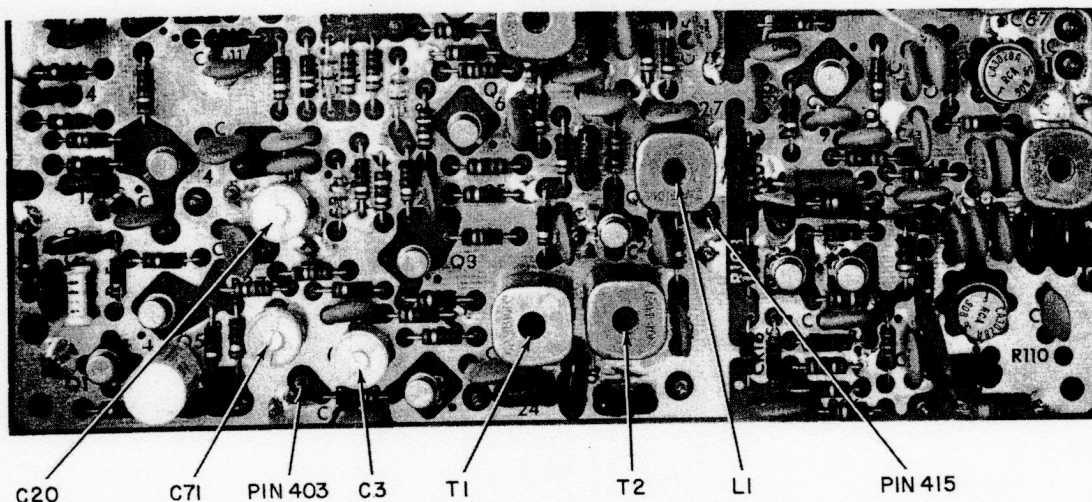
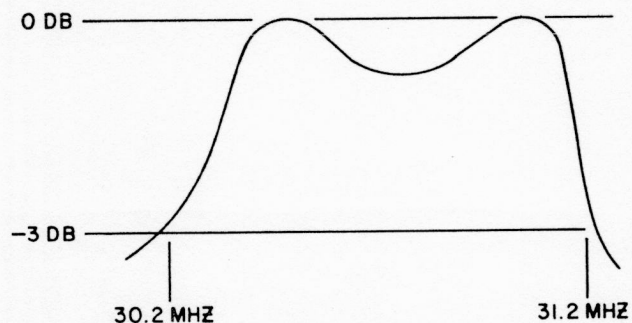

Figure 5-14. Location of Pins and Adjustments on IF Board
Figure 5-15. Response Curve for 30.2 to 31.2 MHz Bandpass Adjustments
6. Disconnect wire no.4 from IF board input pin 403. (PTO A input to IF board, see Figure 5-14.)
8. Connect an RF detector probe and oscilloscope to IF board output pin 415 (30.2 to 31.2 MHz test point, see Figure 5-14).
9. Tune IF board transformer T1, T2, and inductor L1 (see Figure 5-14) for the response curve shown in Figure 5-15.
12. Connect the RF millivoltmeter to IF board output pin 415 (see Figure 5-14).
13. Adjust IF board capacitor C3 (see Figure 5-14) for a 600 MVRMS indication on the RF millivoltmeter.
15. Adjust IF board capacitor C20 (see Figure 5-14) for a 600 MVRMS indication on the RF millivoltmeter.
20. Adjust IF board capacitor C71 (see Figure 5-14) for a 600 MVRMS indication on the RF millivoltmeter.